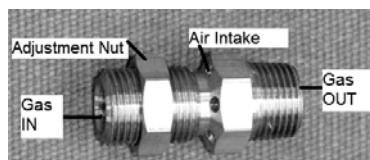

Fig. 2 (Part 1- LP Gas)
**IMPORTANT:** LP Kits use air mixer orifice Installation (**Part 1**): Install as shown in Figure 2.